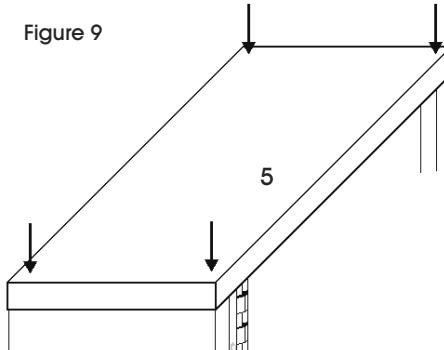

Figure 9
2. Once both posts are started, tap evenly down on the top (5) with a rubber mallet until it is just past the side and back panels. (See Figure 9)